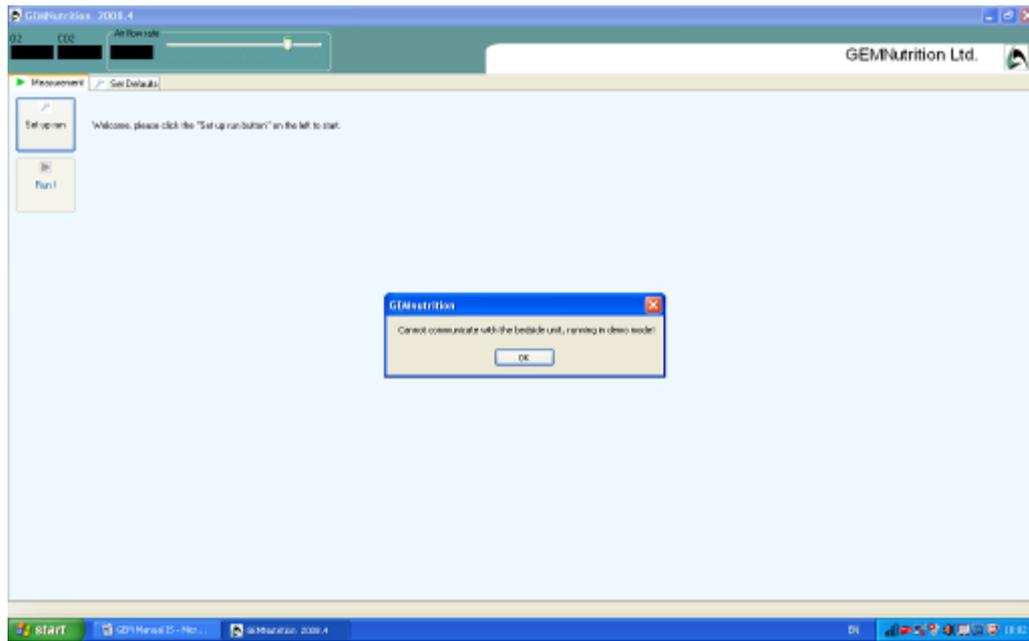

Figure 7. "Cannot communicate with bedside unit"
25. If you encounter the error message below which says “cannot communicate with bedside unit, running in demo mode!” (figure 7) then it could be that the GEM software was started too soon so that first thing to do is close and re-open the GEM Nutrition software.